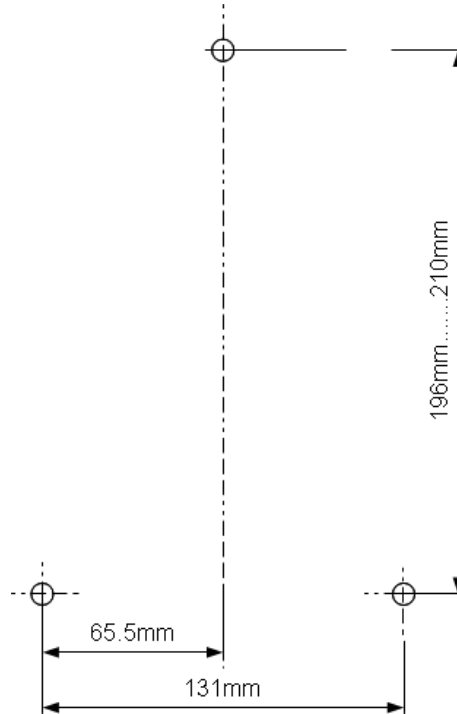

Fig.4.3. Drilling plan
- 5.** Make the three holes for the mounting screws on the surface where the concentrator has to be installed. The mounting dimensions are according to Fig 4.3.